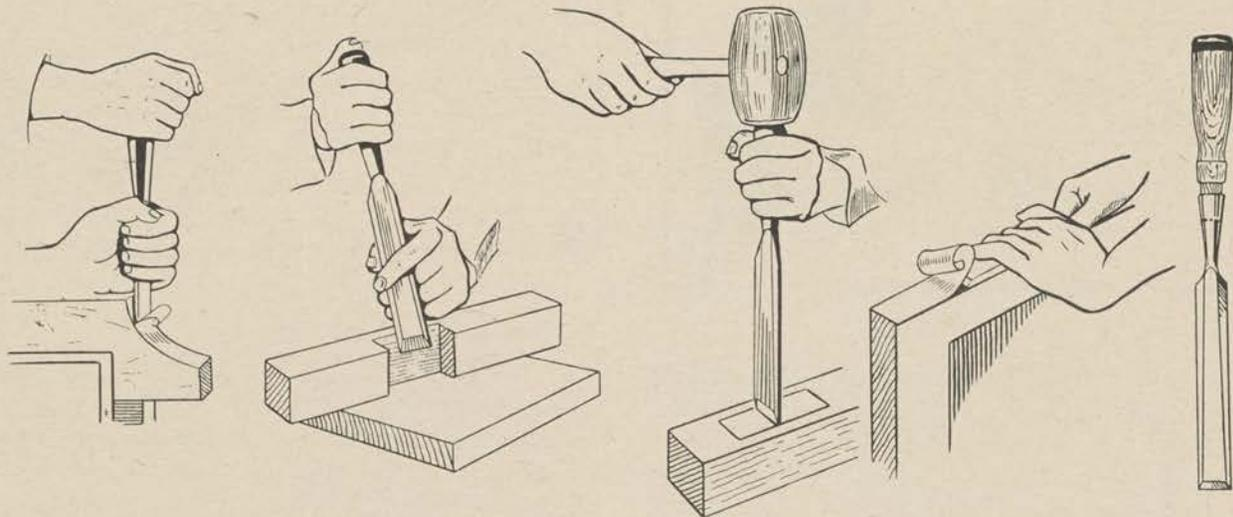

Figure 76.
b. The best chisel for general work is the kind known as a "firmer" with a beveled blade. It comes in many sizes, but a  $\frac{1}{4}$ -inch and a  $\frac{3}{4}$ -inch chisel will fill most needs. The chisel is extremely useful in small cutting and shaping operations and may be used in many different ways. Some of these are demonstrated in the illustration (fig. 76).